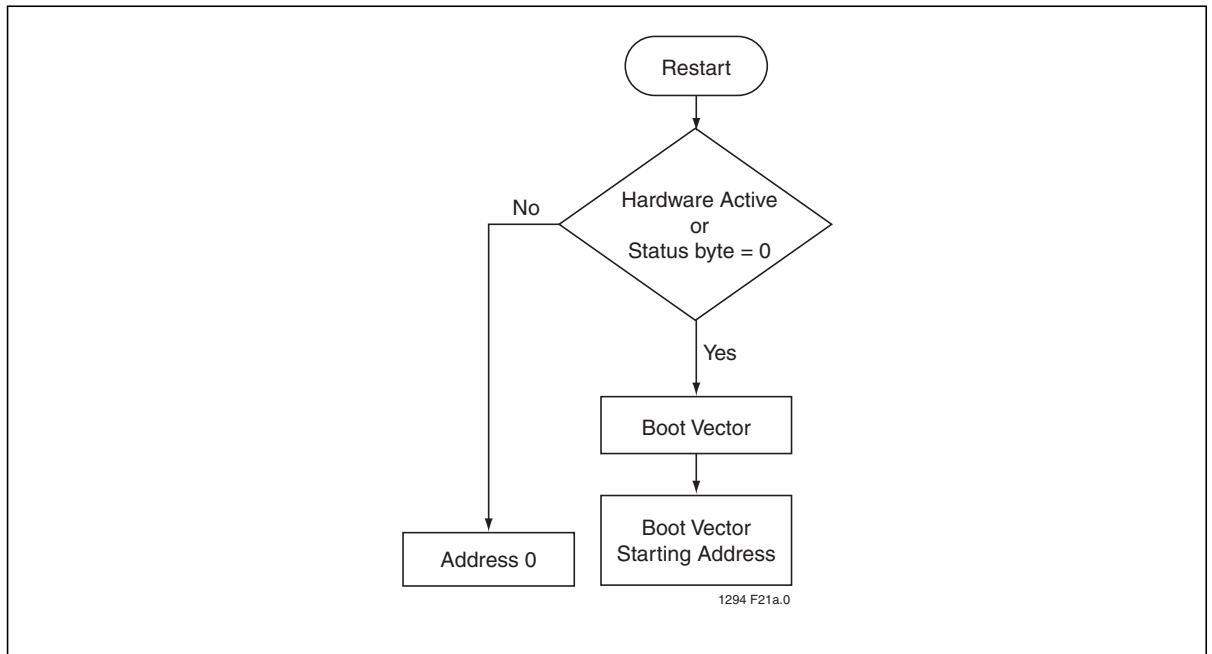

Figure 27: Boot Sequence Flow Chart
After Power-on, the hardware checks the Status byte. (See Figure 27) If the Status byte is programmed, the value of the boot vector is used as the high byte of the program counter (PC) starting address, the lower byte of PC will be 00H. if the Status Byte is un-programmed, the PC will start from address 0. The boot vector factory default setting is FCH and the status byte factory default setting is programmed.